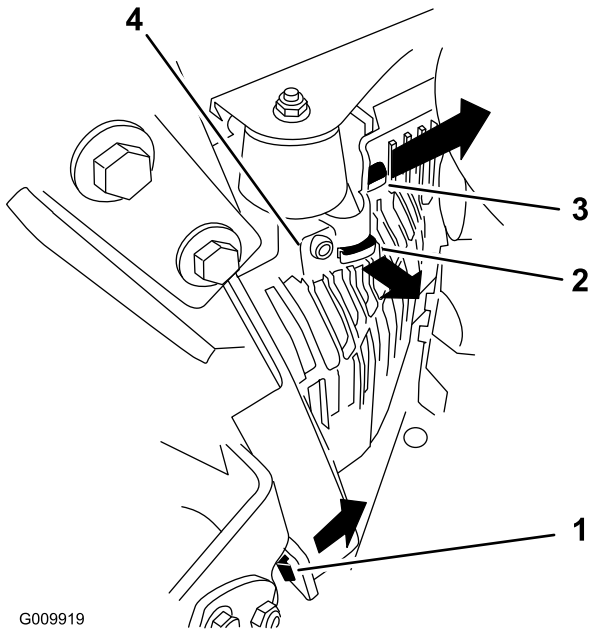

Figure 39
3. Remove the left hydraulic-unit shroud in the order listed with Figure 39. This gives you access to the front spark plug.
2. Install the hydraulic shroud (Figure 39).